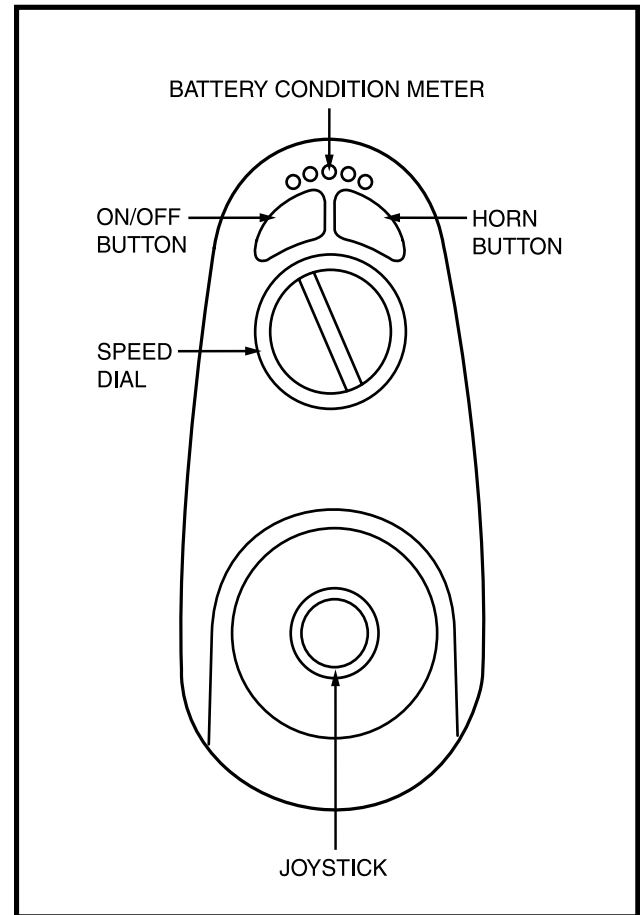

Figure 23. GC Joystick Module
The control panel contains the control buttons and the battery condition meter. See figure 23.
**Battery Condition Meter:** The battery condition meter consists of five LEDs arranged in an arc over the on/off and horn buttons. See figure 23. The battery condition meter indicates the status of the electrical system using LED codes. For example, as the battery voltage drops, the number of LEDs reduces from right to left. When the battery capacity drops to 10% or below, the left red LED will flash.